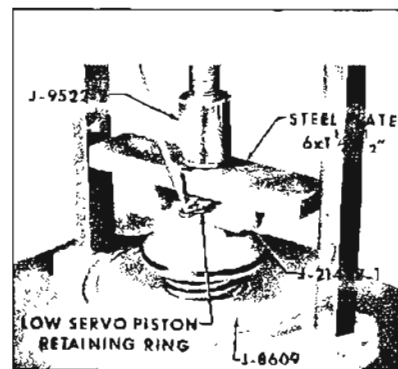

Figure 5-178
**NOTE:** After retaining pin has been removed release hydraulic ram very slowly. See Figure 5-178.